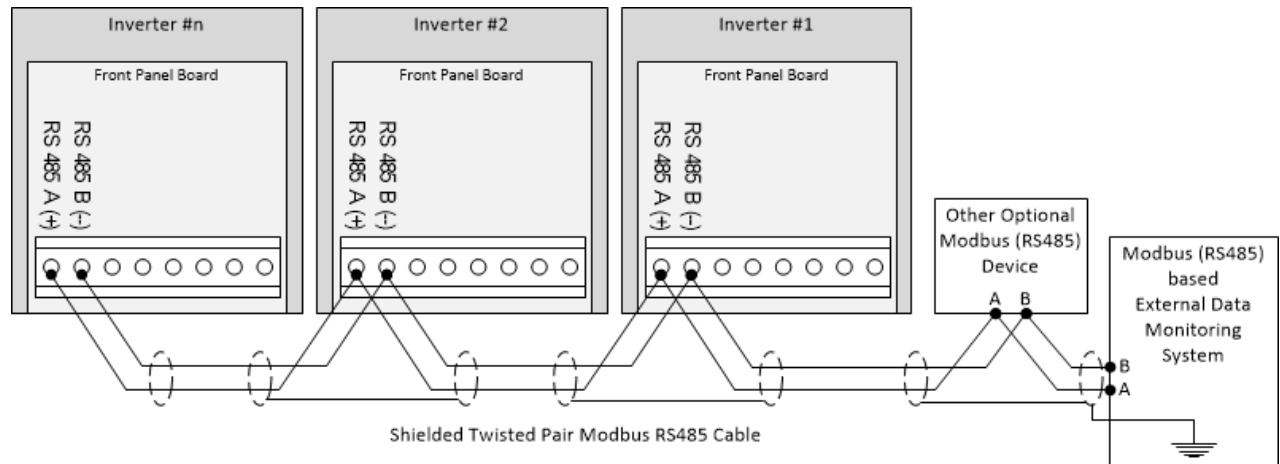
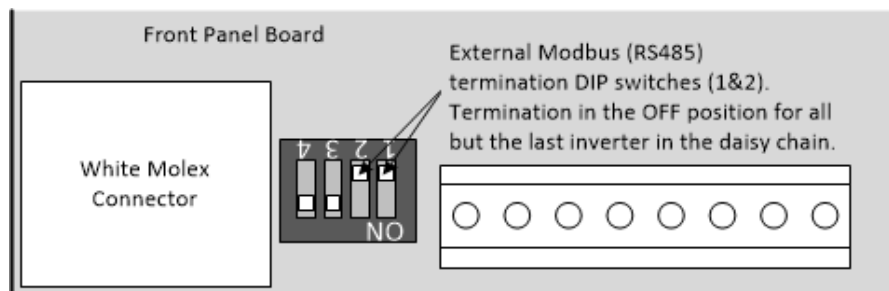
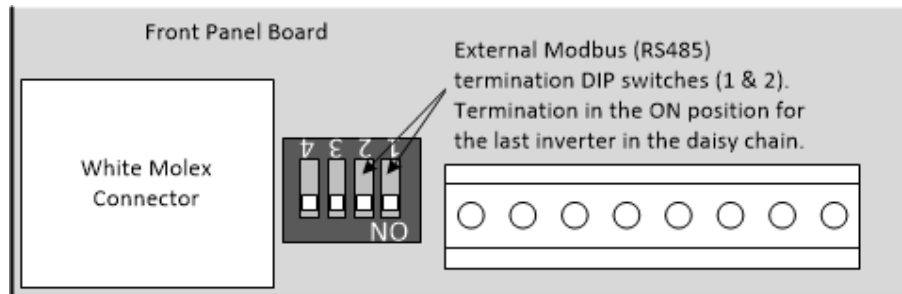

Figure 7.9—Typical External Data Monitoring System Modbus Connections
Figure 7.11 – External Modbus (RS-485) Termination Switches 1 and 2 in the OFF Position
Figure 7.12– External Modbus (RS-485) Termination Switches 1 and 2 in the ON Position
2. Connect the RS-485 wires to the A and B terminals on the front DAS as shown in Figure 7.9. Torque the terminals to 4in-lbs.
3. The shields between the different cable legs need to be connected together to ensure shield continuity as shown in Figure 7.9. Do not connect the shield to the ground terminal on the SolrenView DAS.
It is important that the Modbus be terminated correctly in order to minimize any bus reflections that could cause communications disruptions. The Solectria inverters provide DIP switches that allow one to turn the bus termination ON or OFF. The default setting from the factory has the external Modbus (RS-485) terminations turned OFF. The default OFF setting is appropriate for inverters that are in the “middle” of the daisy chain, where bus termination is not required (e.g., inverter #1 and #2 in Figure 7.9 above). Any inverter that is not at the end of the daisy chain should use the factory default setting with the termination turned OFF as shown in Figure 7.11.
Figure 7.11 shows the external Modbus (RS-485) termination switches (1 and 2) are in the OFF position (pushed away from the edge of the board). Switches 3 and 4, closest to the white Molex connector, must always be in the ON position towards the edge of the board.
If the inverter happens to be the last device in the Modbus (RS-485) daisy chain (where the bus physically ends) the external bus termination has to be turned ON (e.g., Inverter #n in Figure 7.9 above). That is done by pushing DIP switches 1 and 2 towards the edge of the board, as shown in Figure 7.12.